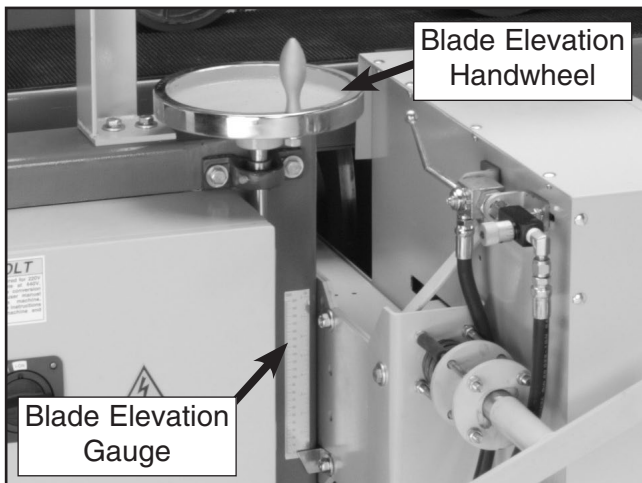

Figure 28. Blade elevation handwheel.
2. Turn the blade elevation handwheel (shown in **Figure 28**) counterclockwise to raise the blade or clockwise to lower the blade. Use the elevation gauge to determine the height.